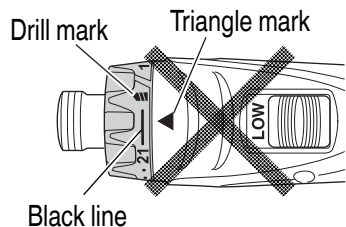

Fig. 8
- **Do not use with the clutch dial numeral between “21” and the black line at the middle of the drill mark. Doing so may cause damage (See **Fig. 8**).**